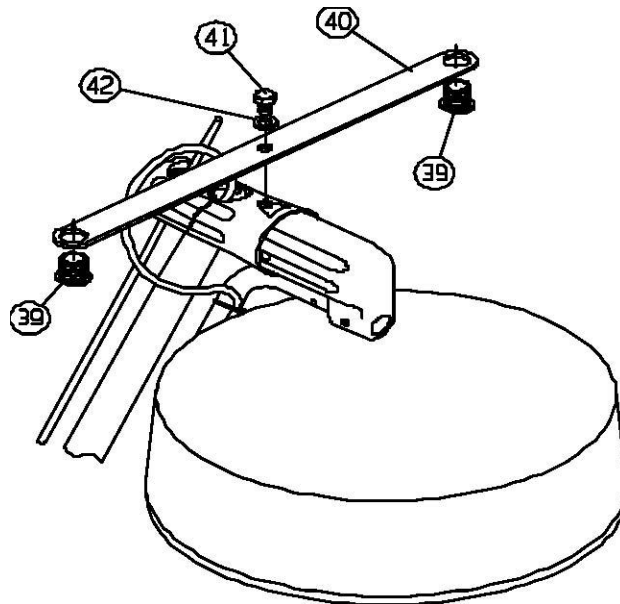

FIGURE 15
2. The DBA2 Bracket assembly mounts on the flat surface on the topside of the Pivot Base Cone. Apply Loctite to the threads of the Hex Head Bolt (41). Insert the Bolt through the Lockwasher and then through the center hole of the Bracket (40) then tighten in the top adjustment screw hole of the Pivot Base Cone. (Figure 15)
3. Insert the Antenna Bushings (39) in the Antenna Bracket (40) and affix the antennae.